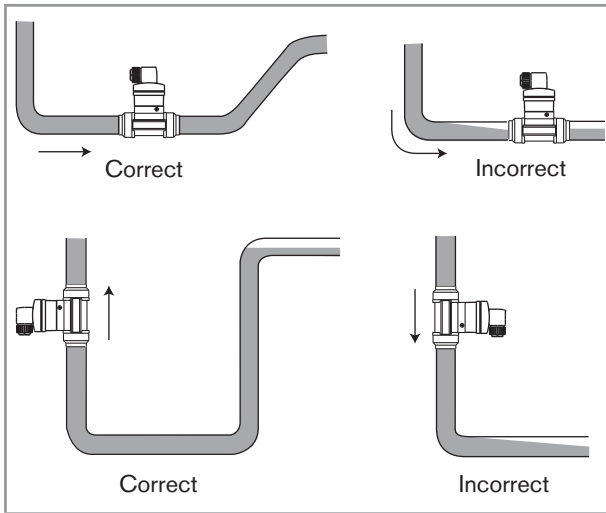

Fig. 4 : Additional recommendations on installation
- Ensure the pipe is always filled with liquid (see Fig. 4).